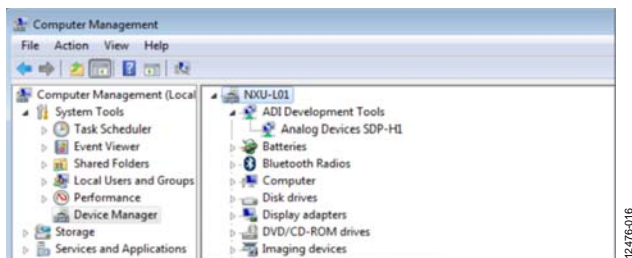

Figure 16. Device Manager
- If the board does not appear to be functioning, ensure that the ADC evaluation board is connected to the EVAL-SDP-CH1Z board and that the SDP board is recognized in the **Device Manager**, as shown in Figure 16.